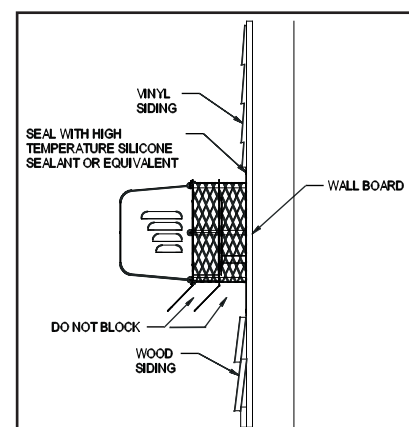
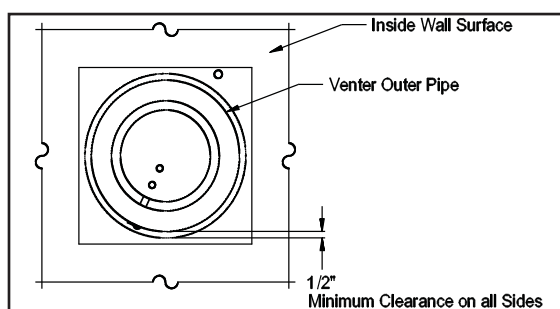

Figure 2
Figure 3
1. After determining the location of the venting system termination point (See Diagram A), cut a square hole through the wall at least 1" larger than the outer pipe diameter of the power venter. (See Note Below) Mount the power venter through the wall, keeping the outer pipe centered in the hole. (See Figures 2 and 3) Provide the motor enclosure end of the venter with a temporary support structure. Fasten the power venter to the outside wall with appropriate fasteners, sealing the edges of the power venter base plate to the wall with a high temperature silicone sealant. DO NOT enclose the spaced plates on the power venter body. This will result in reduced cooling of the power venter body. Wood or vinyl siding should be cut so that the unit mounts directly on the wall board to provide a stable support. If the siding is greater than 1/2" thick use a spacer plate or board behind the power venter mounting plate. (See Figure 2) NOTE: If mounting the power venter through a combustible wall material, a minimum clearance of 1/2" must be maintained between the venter outer pipe and combustible materials. (See Figure 3) The power venter has a maximum flue gas temperature of 650°F US/575°C Canada at the venter inlet.